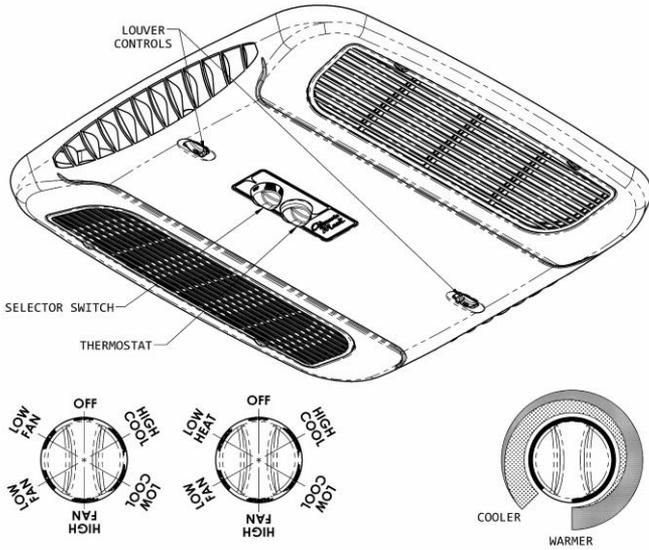

Figure 1
**A. The Selector Switch** – The selector switch determines which mode of operation the air conditioner will be in. By rotating the selector switch, the operator can obtain any system function desired. System functions vary depending upon options of both the roof top unit and ceiling assembly. Figure 1 shows selector switch location and lists all available functions by model.
**B. The Thermostat (temperature control)** – In the cooling mode, the thermostat regulates the "ON" and "OFF" temperature setting at which the compressor will operate. See Figure 1.
For "Heat/Cool" models, the thermostat also controls the "ON" and "OFF" temperature settings of the heater assembly (See Figure 1).
- I. For Cooling (Refer to Figure 1, page 10).
### IV. For Heating ("Elect-A-Heat" Ceiling Assembly Model Only, Refer to Figure 1, page 10)
### V. For Air Circulation Only (Refer to Figure 1, page 10).